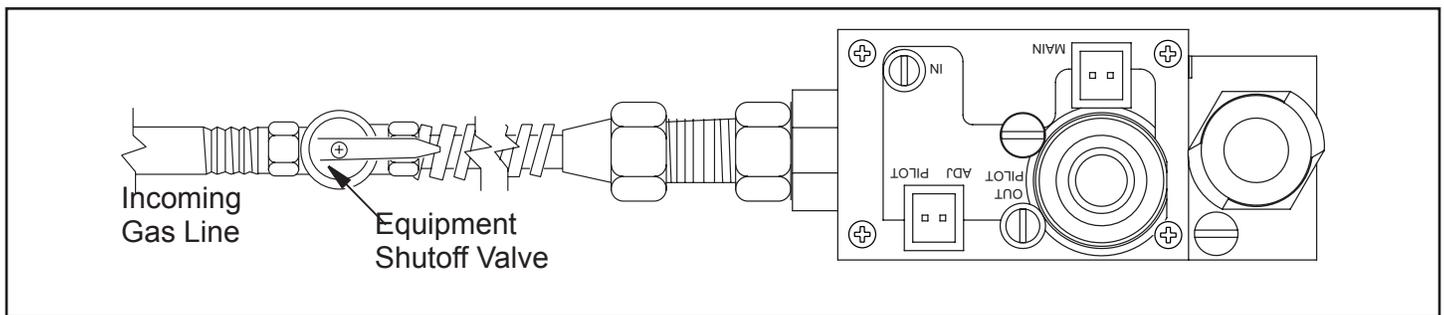

Figure 44 - Turning Equipment Shutoff Valve to the OFF Position
5. Turn equipment shutoff valve clockwise ↻ to the OFF position (see Figure 44). Do not force.
6. Wait five (5) minutes to clear out any gas. Then smell for gas, including near the floor. If you smell gas, STOP! Follow "B" in the safety information. If you don't smell gas, go to the next step.